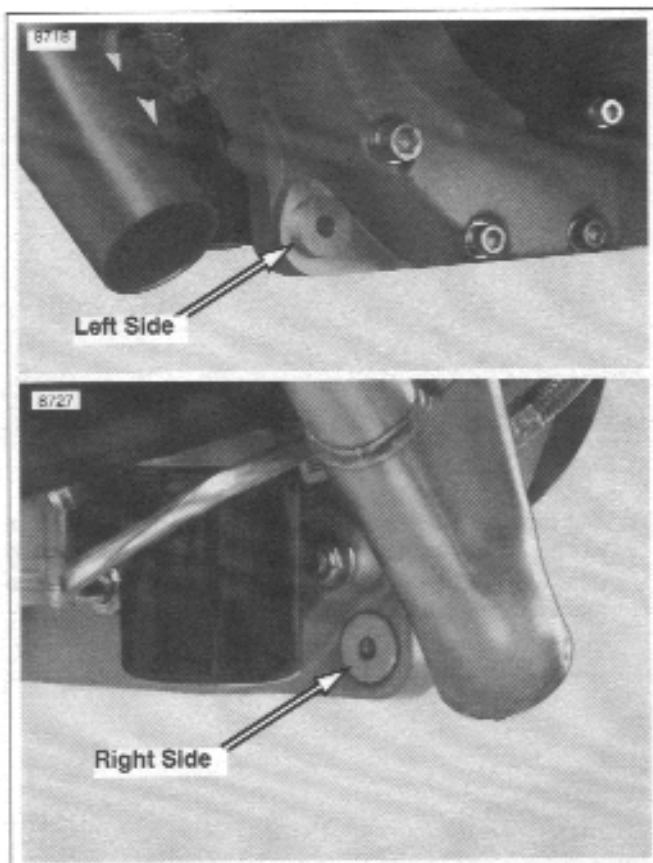

Figure 3-31. Front Exhaust Mount Bushings (2 piece)
- See Figure 3-31. Aluminum bushings from front exhaust mount.